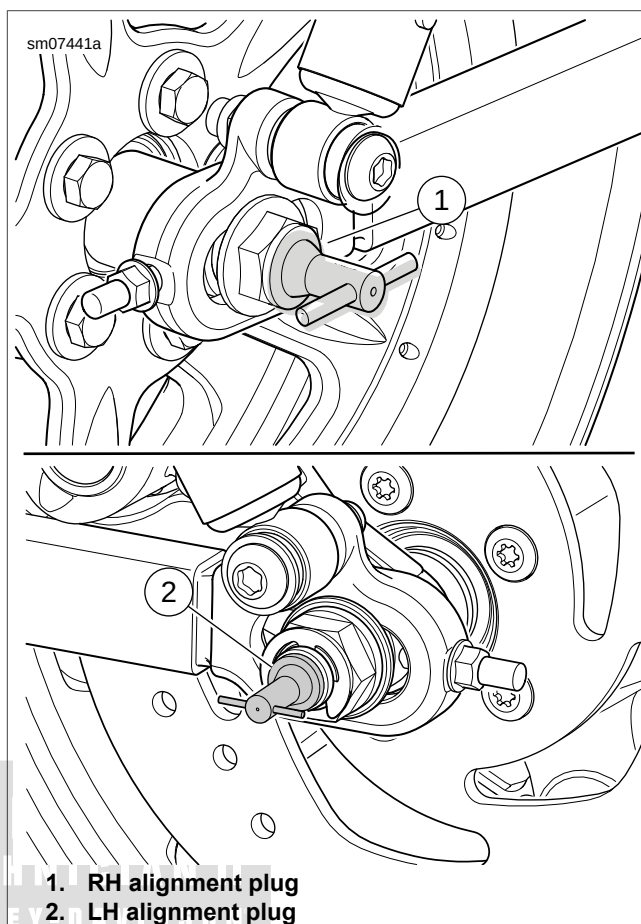

Figure 1-75. Axle Alignment Plugs
- See Figure 1-75. Insert alignment plugs (1, 2) from the AXLE ALIGNMENT PLUGS (Part No. HD-48856-A) into right and left ends of rear axle. Turn handle until plug is firmly held in the axle.